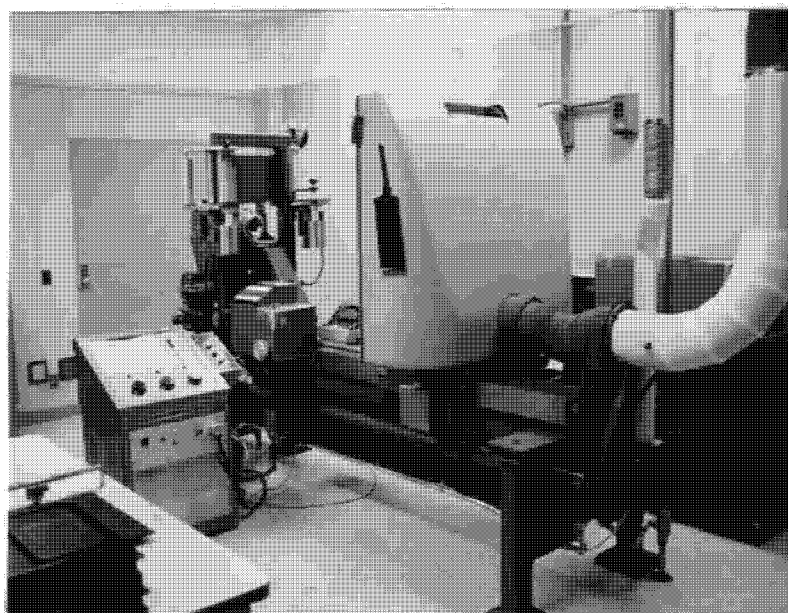

Figure 69
- Figure 69 - Beacon Precision Enlarger (BPE)